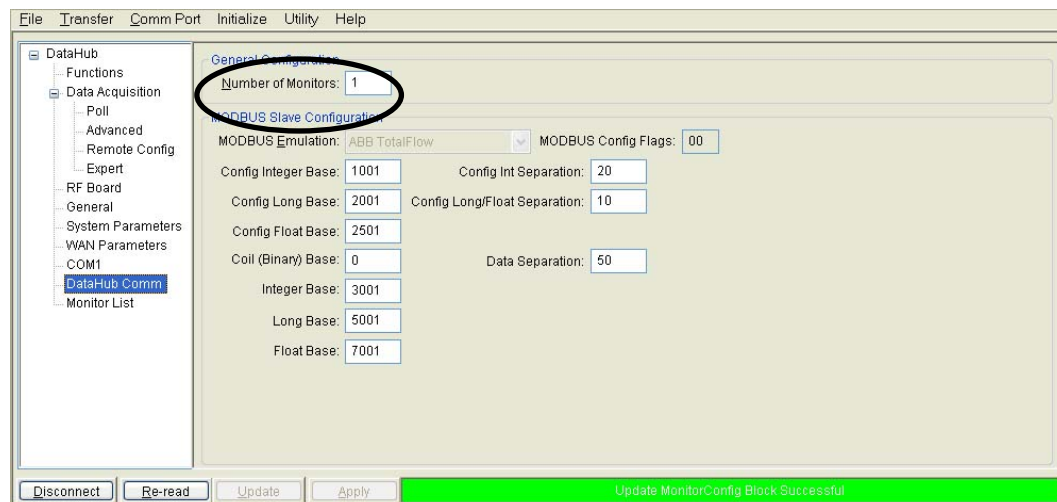

Fig. 7.4: Enter Number of Monitors
- 7.13 Click on **Apply** then **Update**. Screen similar to Fig. 7.4 should appear.